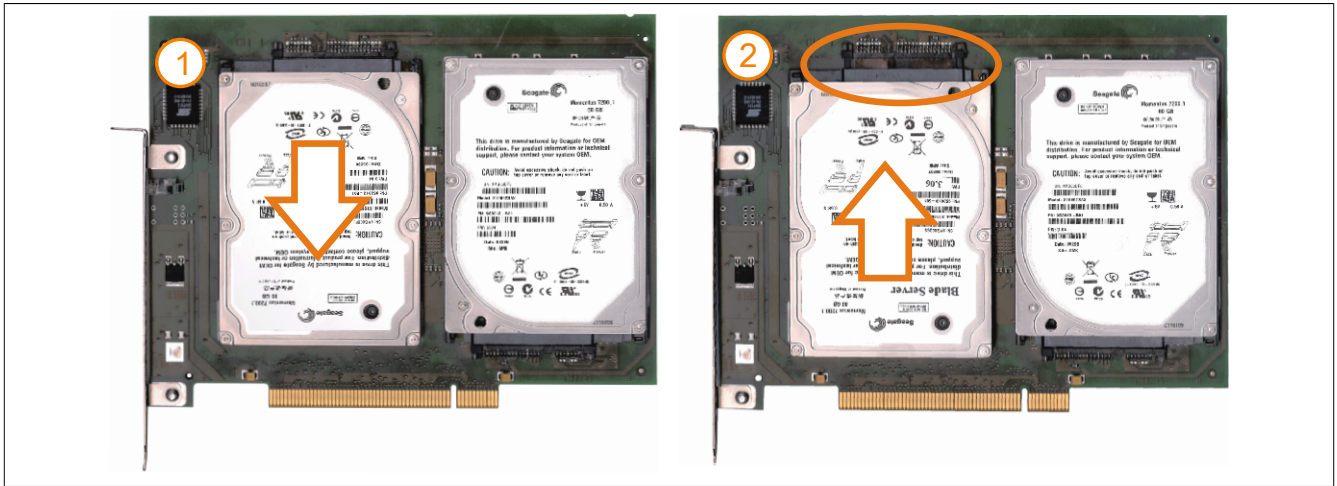

Figure 217: Hard disk exchange
6. On the front side, slide the hard disk down and away (Figure 217: Hard disk exchange - left image).
7. Insert the new hard disk carefully into the connector (Figure 217: Hard disk exchange - right image), being careful to only touch it on the front, and not on the top.